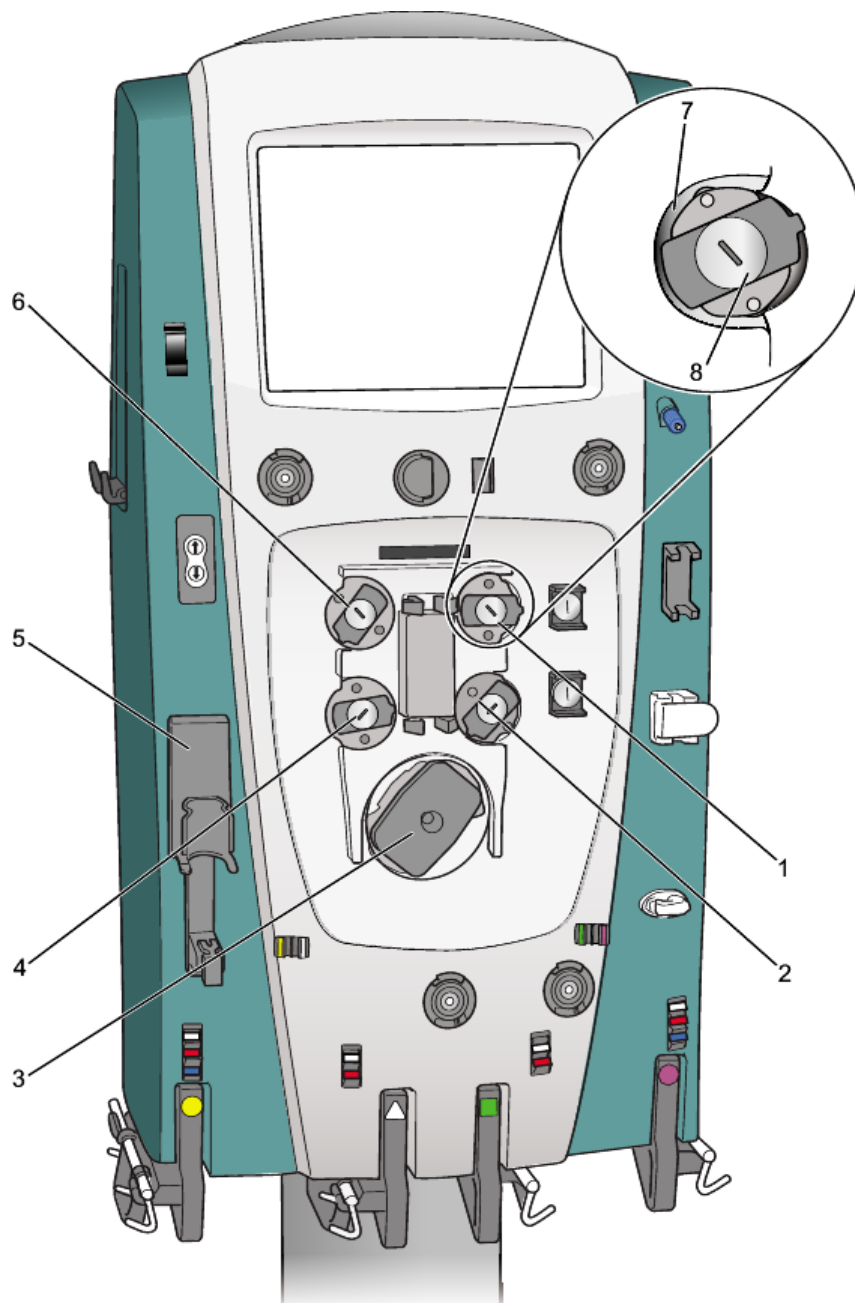

Figure 3:1 Pumps
- Figure 3:1 on page 3:4 shows the pumps.
- Figure 3:2 on page 3:6 shows the pressure components.
- Figure 3:3 on page 3:8 shows sensors and clamps.
- Figure 3:4 on page 3:10 shows the scale components.
- Figure 3:5 on page 3:12 shows miscellaneous components.